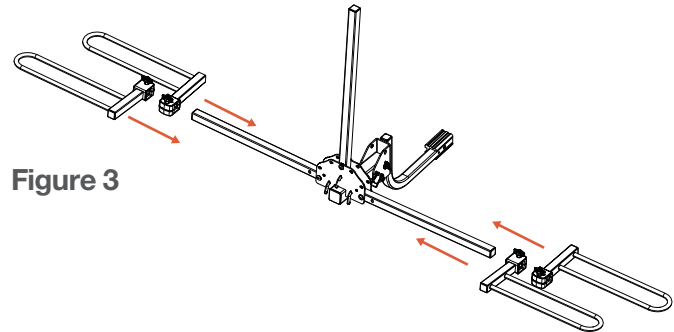
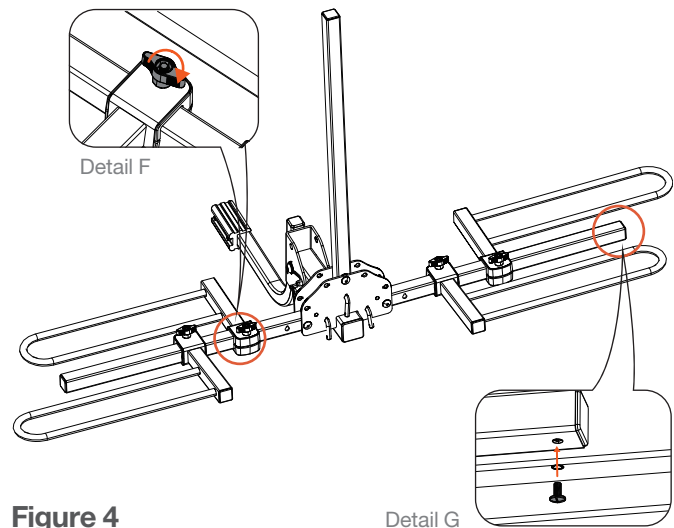

Figure 3
Figure 4
Slide the support arms (#4,#5) onto the main body rack arms (1), making sure the tightening knob is facing upward. See figure 3. Tighten the knobs as shown in figure 4, detail F. After the supports are tightened, insert set screw (#7) into the end of each arm as shown in figure 4, detail G.